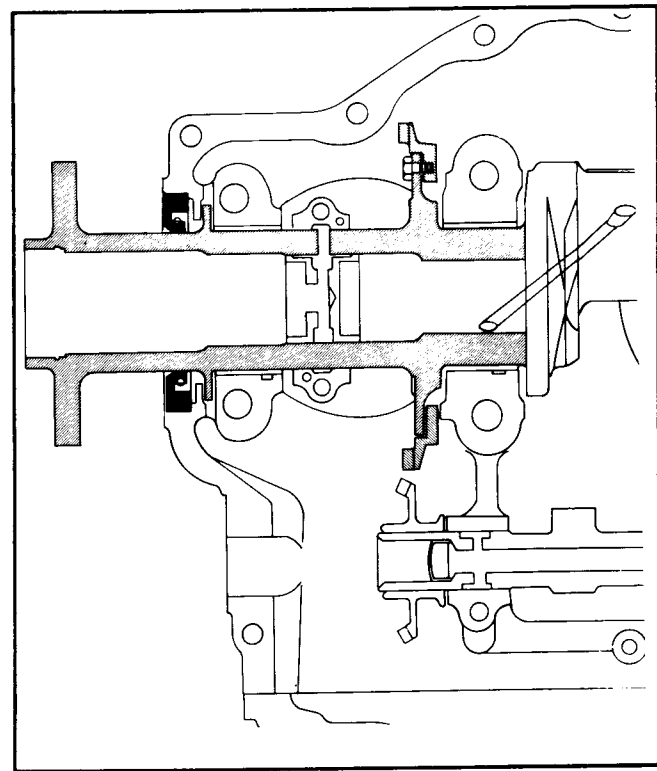

FIGURE 7-2. ALTERNATOR DRIVE GEAR INSTALLED.
j. Heat gear (28) in oven at 300° F. for half hour or more and install on crankshaft (See Figure 7-2). Secure with four bolts (26) and tab lock plates (27).